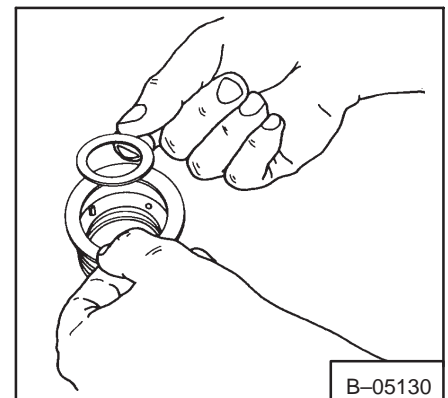

Fig. 3-42 Balance Plate Seals
11. Remove the seals from the balance plate (Fig. 3-42).